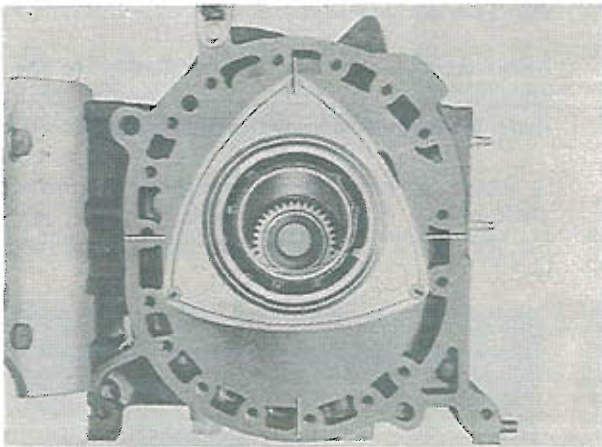

Fig. 1-67 Positioning front rotor
5. Mesh the internal gear and stationary gear so that one of the rotor apexes is set to any one of the four places shown in Fig. 1-67, and remove the used "O" ring.